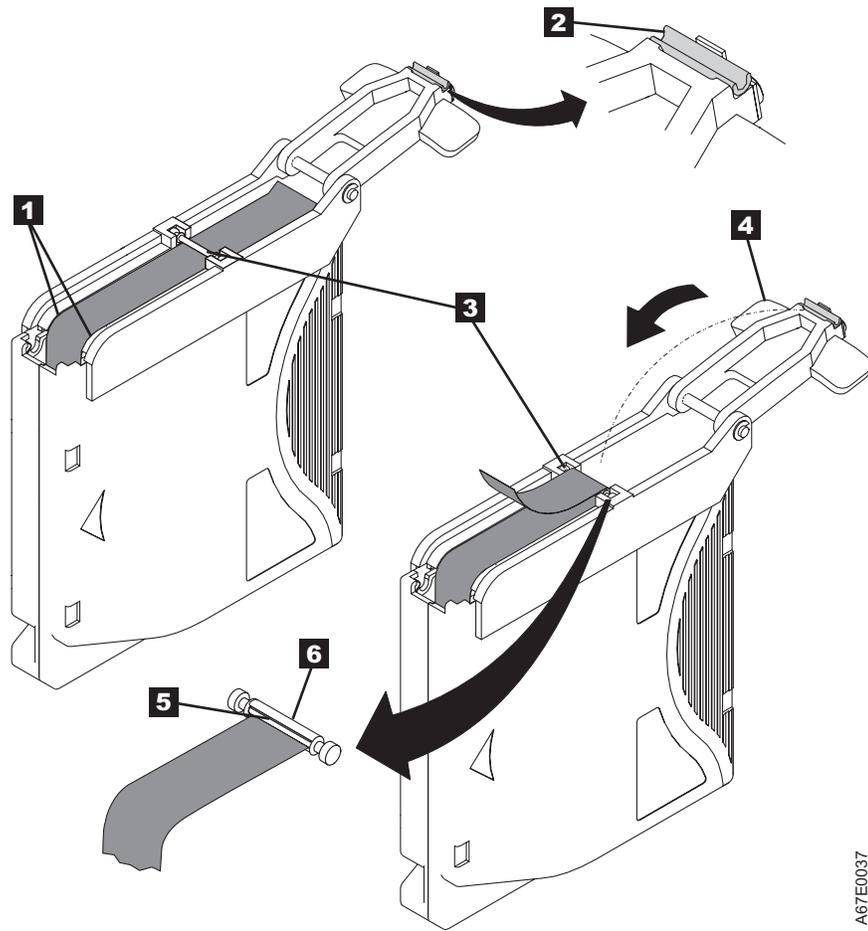

Figure 18. Attaching the leader pin to the tape
10. Fold the tape over the leader pin and hold it with your fingers (see Figure 18).